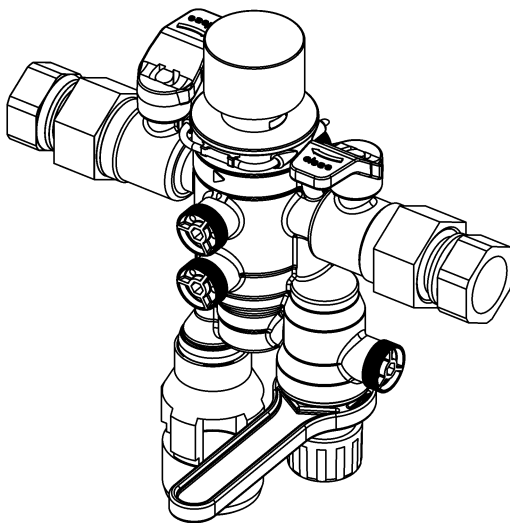

Fig. 7: Replacement of the pressure reducer cartridge
- / Fold the casing cover upwards and remove the front and rear casing halves and close both shut-off valves (see fig. 7).